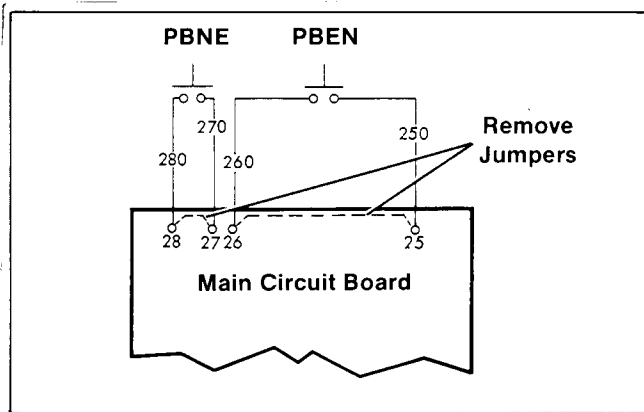

Figure 16. Manual (PBNE, PBEN) Switch Connection
- **Acc. 29-B, D—Normal-to-Emergency and Emergency-to-Normal Toggle Switches** may be used to manually cause transfer to either the normal or emergency position. See Figure 16 for Connections.